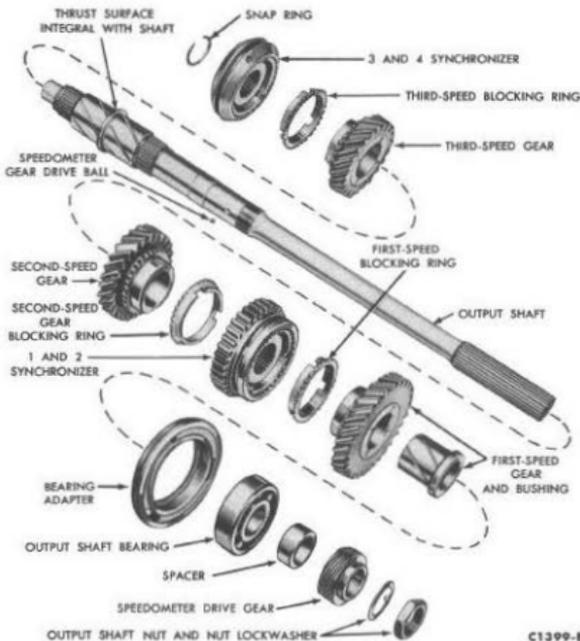

FIG. 57—Output Shaft Disassembled
15. Remove the speedometer gear and drive ball. Remove the speedometer gear spacer (Fig. 57).
3. Place the second gear on the rear of the output shaft with the clutch teeth and tapered synchronizer end toward the rear. Install a blocking ring with the clutch teeth toward the front (Fig. 57).
8. Place the spacer, speedometer gear drive ball, speedometer gear, (shoulder to rear) lock washer (tab into speedometer gear), and nut on the output shaft (Fig. 57). Torque the nut to specifications. Bend the washer over a flat on the nut.